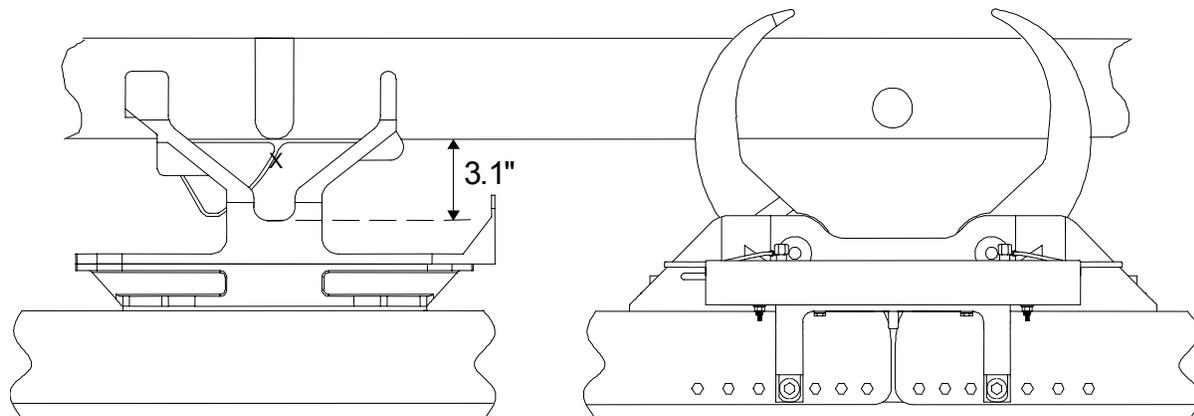

FIGURE 5: AMS PAS Assembly lowering (GVA RTL Sensor Gate engagement)
02-011 Continue moving the AMS Passive PAS Assembly until all (3) AMS PAS Assembly Guide Pins contact the S3 PAS #2 GVA RTL Sensor Gates as shown in Figure 5 (dimension provided is for reference only):